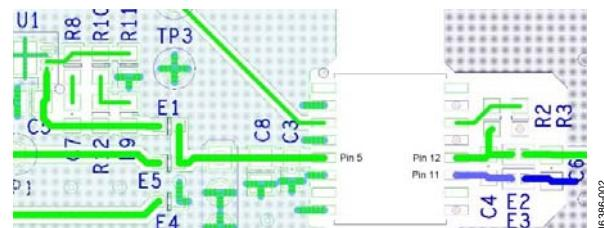
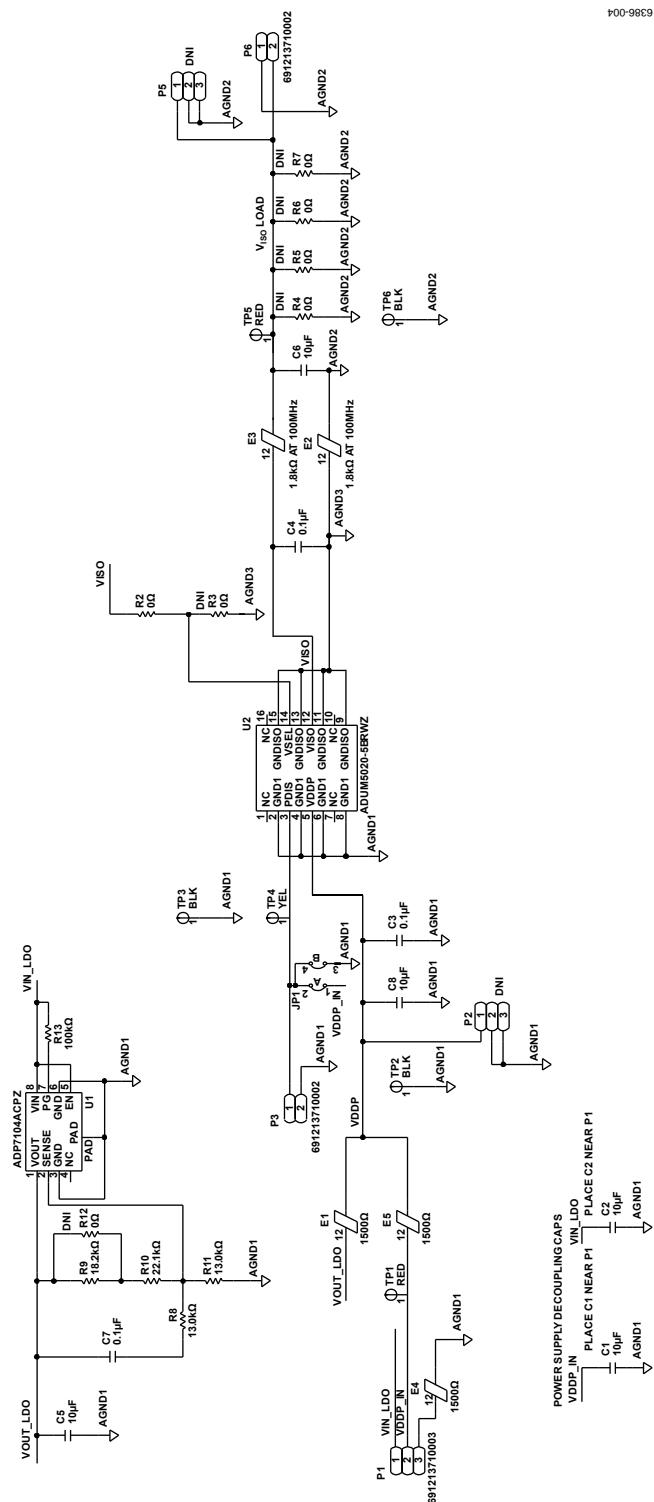
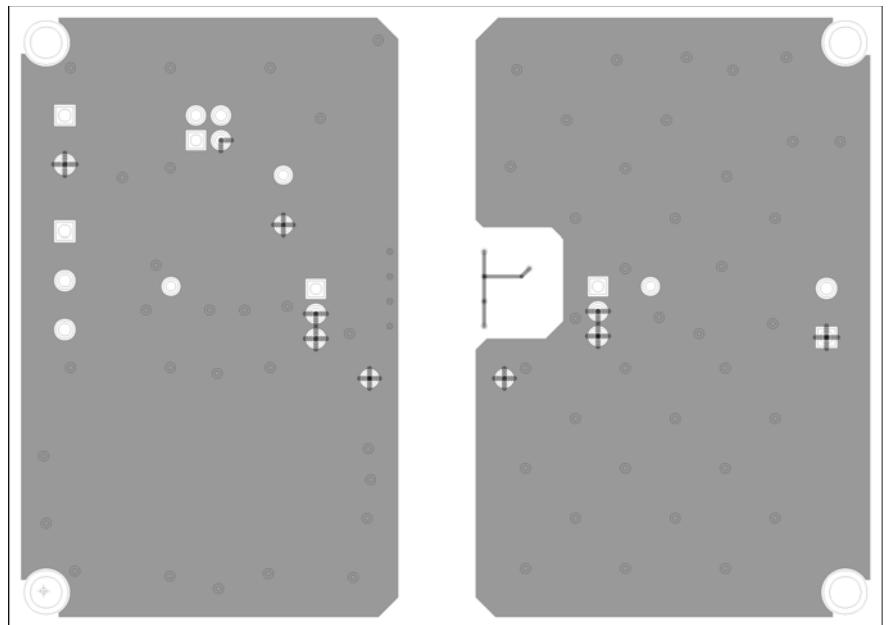

Figure 2. Layout Notes for EVAL-ADUM5020EBZ
Figure 5. EVAL-ADUM5020EBZ Evaluation Board Schematic
Figure 7. EVAL-ADUM5020EBZ Evaluation Board Bottom Layer and Silkscreen
To reduce the level of electromagnetic radiation, increase the impedance to high frequency currents between the V_{ISO} and the GND_{ISO} pins and the PCB trace connections. Using this method of emissions suppression controls the radiating signal at its source by placing surface-mount ferrite beads in series with the V_{ISO} and GND_{ISO} pins (see Figure 5). The impedance of the ferrite bead is approximately 1.8 kΩ between the 100 MHz and 1 GHz frequency range. This impedance value reduces the emissions at the 180 MHz primary switching frequency and the 360 MHz secondary side rectifying frequency and harmonics. See Table 2 for examples of appropriate surface-mount ferrite beads.
To pass CISPR22/EN55022 Class B on a 2-layer PCB, the following layout guidelines are recommended (refer to Figure 2 and the schematic in Figure 5):
- Do not connect the V_{ISO} load (shown in Figure 5) to a power plane; connect using a PCB trace.
- Ensure that V_{ISO} (Pin 12) is connected first through the E2 ferrite before connecting it to the V_{ISO} load, as shown in Figure 2.
- Ensure that there is a keep out area in the PCB layout around the E2 and E3 ferrites, as shown in Figure 2 (no PCB planes under or alongside E2 and E3).
The EVAL-ADUM5020EBZ evaluation board design has been tested to pass the CISPR22/EN55022 Class B standard. Table 3 provides a summary of the results. All CISPR22/EN55022 radiated emissions tests were performed with the PCB schematic and layout shown in Figure 5 to Figure 7.